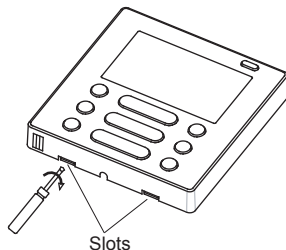

Fig 3-4
- Insert a slot screwdriver into the slots in the lower part of the wire controller (2 places), and remove the upper part of the wire controller. (Fig.3-4)